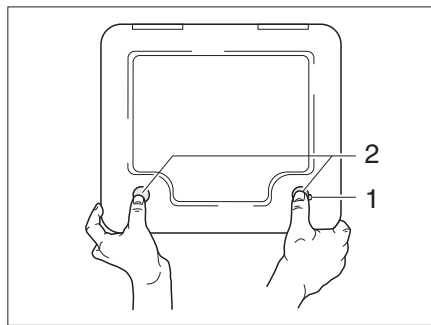

Fig. 134 Flap for Thetford cassette
- Open the flap for the Thetford cassette on the outside of the vehicle. Insert the key into the locking cylinder of the push-button lock (Fig. 134,1) and turn a quarter turn in a clockwise direction.
- Press both push-button locks (Fig. 134,2) simultaneously with your thumb and open the flap for the Thetford cassette.